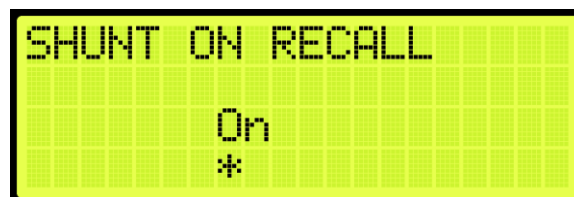

Figure 570: SHUNT ON RECALL Menu
- From the SHUNT ON RECALL menu, scroll and select On (See Figure 570).